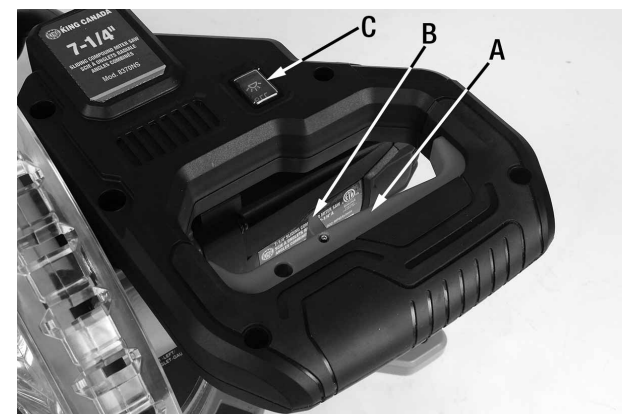

FIGURE 13
This miter saw comes with a safety feature which is designed to reduce accidental starts. The trigger (A) Fig.13 comes with a safety lever (B), this safety lever must be pressed in order to engage the trigger and turn the miter saw on. If safety lever is not pressed, the trigger can not be activated. To stop the miter saw, simply release the trigger after your operation is finished.
This miter saw also comes with a convenient LED light to illuminate the work area. The LED light switch (C) Fig.13 can be found on top of the main handle.